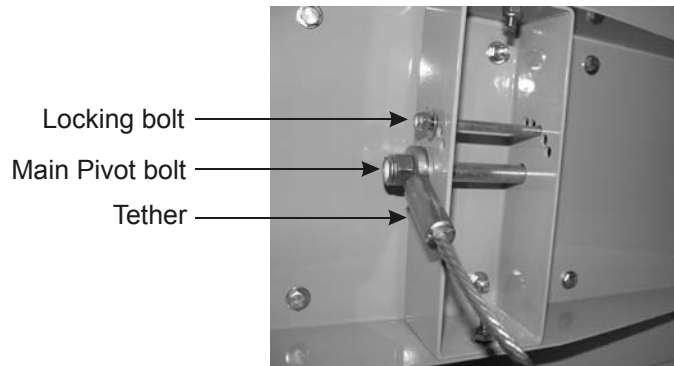

Figure 5-1: Removing bolts and tether
4. Remove the locking bolt, main pivot bolt, and tether from the bracket located on the bottom of the solar engine; see Figure 5-1.